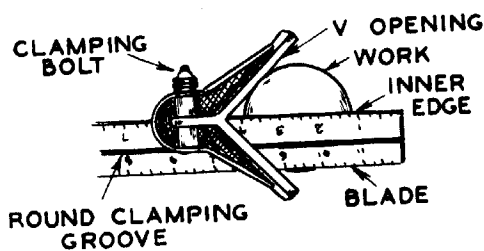

FIG. 5 SCRIBING A CENTER LINE USING A CENTER HEAD
- Scribe a line along the inner edge of the blade (Fig. 5).